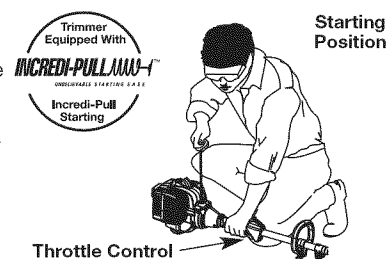

Fig. 9
WARNING: Avoid accidental starting. Make sure to be in the starting position when pulling the starter rope (Fig. 9). To avoid serious injury, the operator and unit must be in a stable position while starting.
5. Crouch in the starting position (Fig. 9). Do not squeeze the throttle. Pull the starter rope with a controlled motion until the unit starts.
5. Crouch in the starting position (Fig. 9). Do not squeeze the throttle. Place the Plug-In Power Start or Power Bit Start into the back of the unit. Refer to the *Operation* section of the Plug-In Power Start or Power Bit Start operator's manual.
6. Press and hold the ON (I) button of the Plug-in Power Start or Power Bit Start equipped drill in intervals no longer than 4 seconds each until the unit starts.
7. Wait and allow the unit to idle for 5 - 10 seconds. If the unit stops running during this time, squeeze the throttle control, then press and hold the ON (I) button of the Plug-in Power Start or Power Bit Start equipped drill in intervals no longer than 4 seconds each until the unit starts.